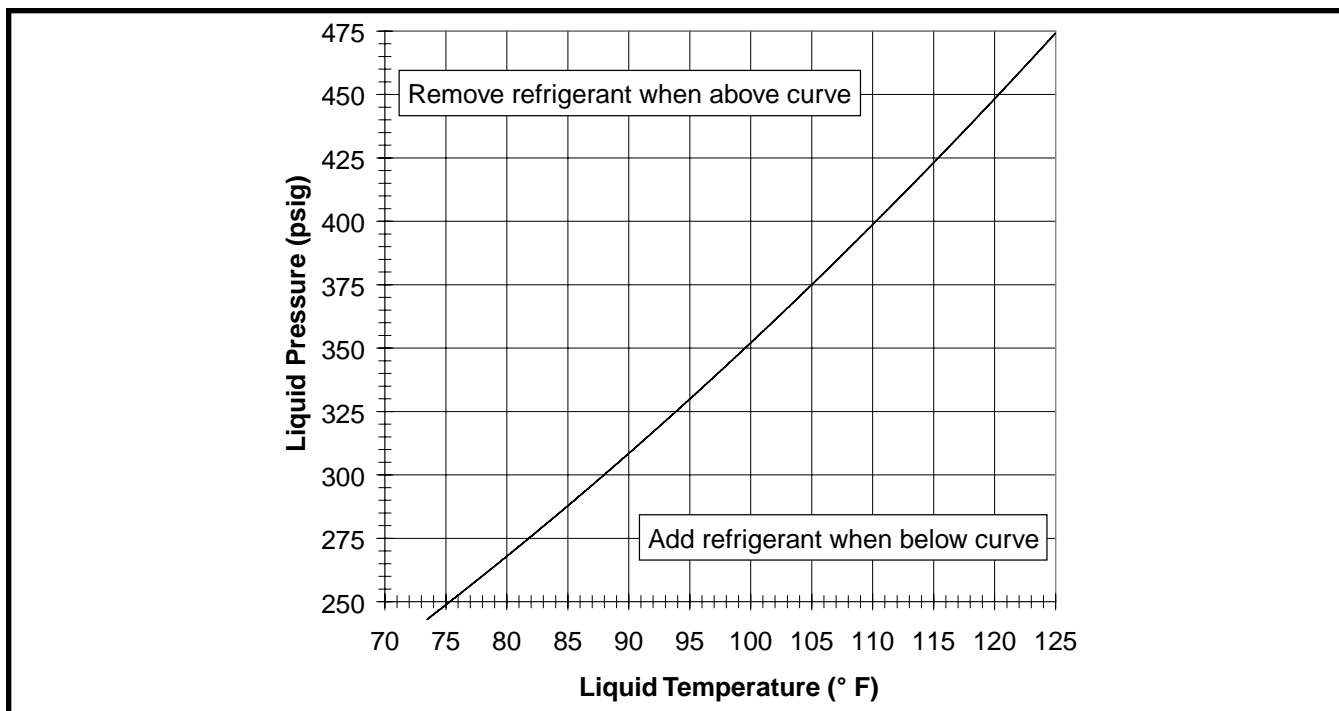
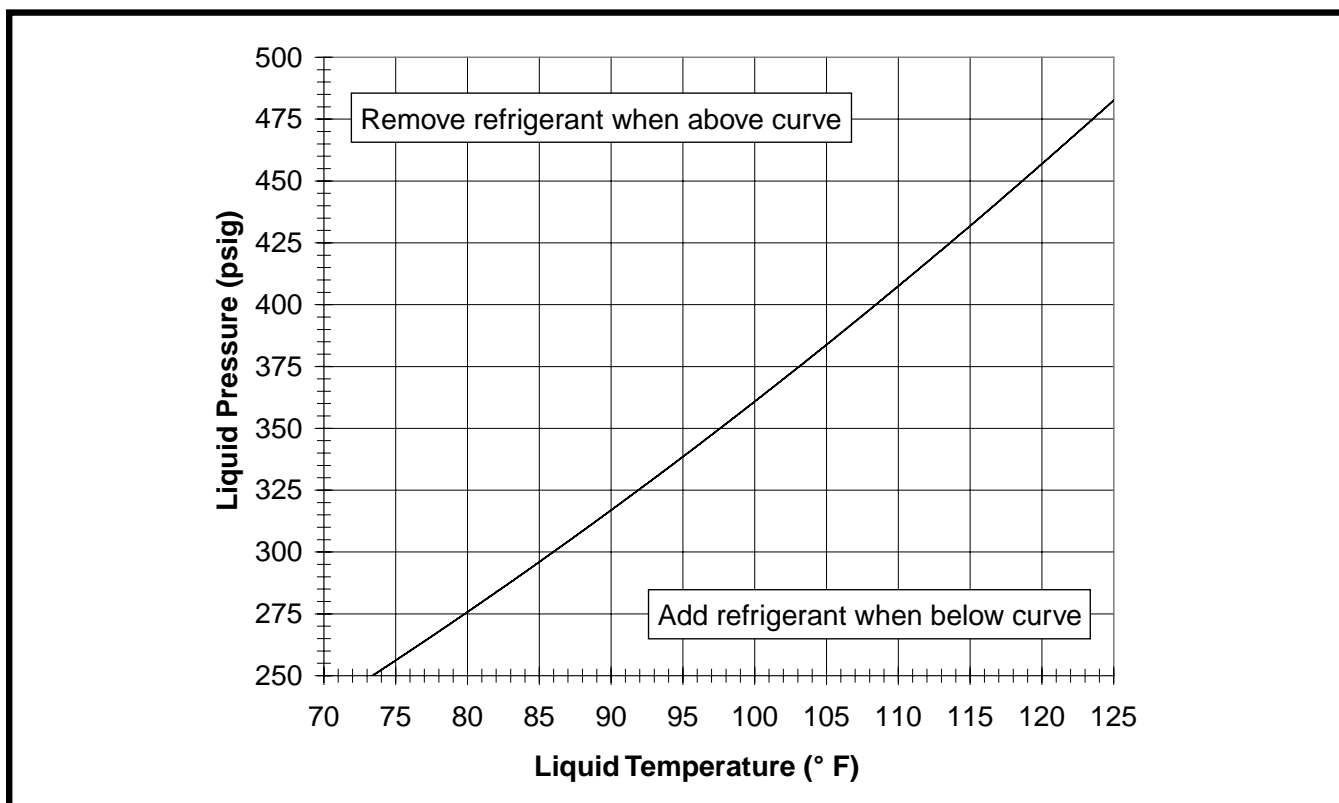
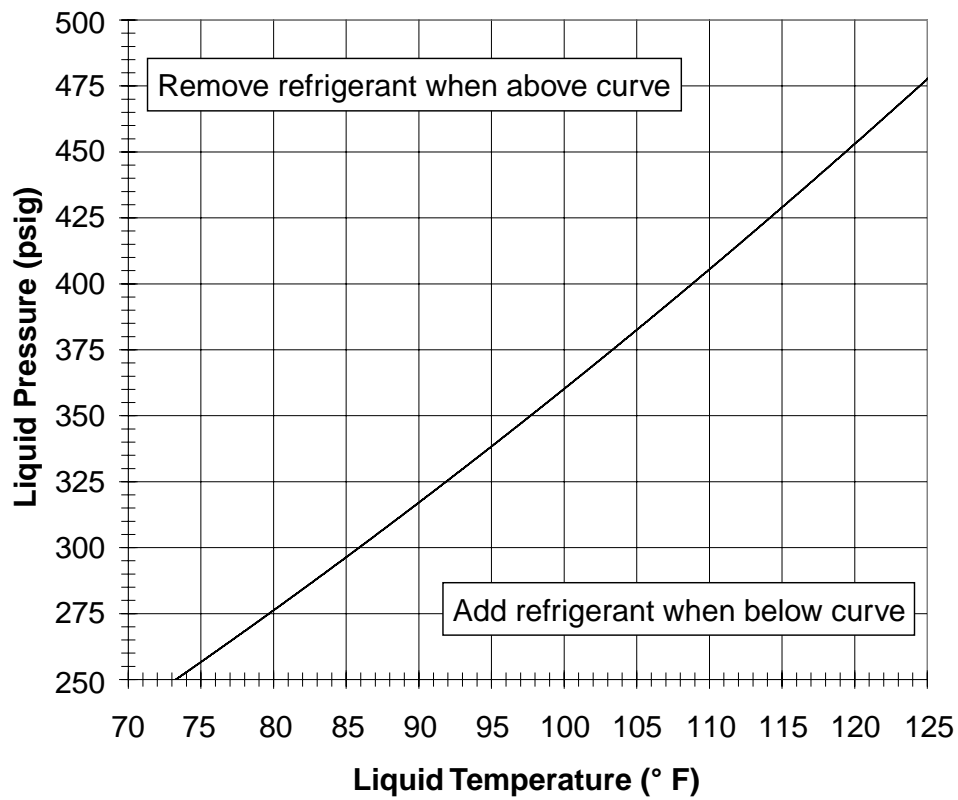
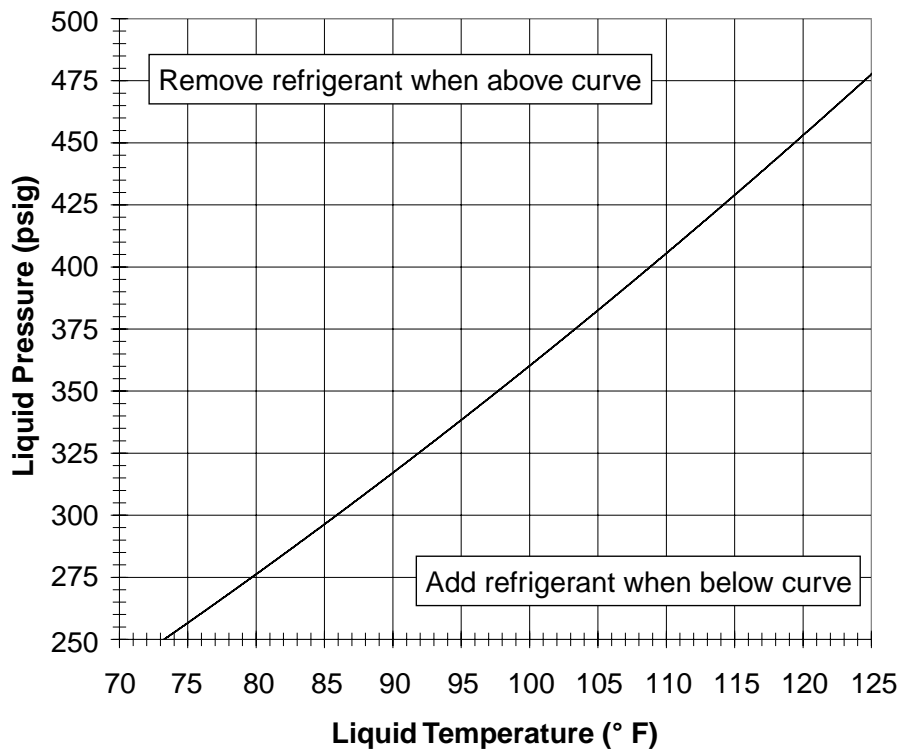

Figure 4. Charging Chart for 2 Ton Units
Figure 5. Charging Chart for 3 Ton Units
Figure 6. Charging Chart for 4 Ton Units
Figure 7. Charging Chart for 5 Ton Units
3. Determine the required liquid refrigerant pressure. See Figure 3, Figure 4, Figure 5, & Figure 6.
- Cooling mode charging charts are applicable only to matched assemblies of this equipment and listed airflows for the indoor coil. Outdoor units with non-AHRI listed indoor coils are not recommended and deviations from rated airflows or non-listed combinations may require modification to the expansion device and refrigerant charging procedures for proper and efficient system operation. Refer to Figure 4, (page 10), Figure 5, (page 10), Figure 6, (page 11) & Figure 7, (page 11) for correct system charging.
- As shown in Figure 4, Figure 5, Figure 6 & Figure 7 the ideal system sub-cooling can vary over the range of operation. Reference the charts to determine the ideal amount of sub-cooling for a given liquid pressure. Units charged to other values will not perform at the rated unit efficiency (EER) or rated Coefficient of Performance (COP) in heating mode.